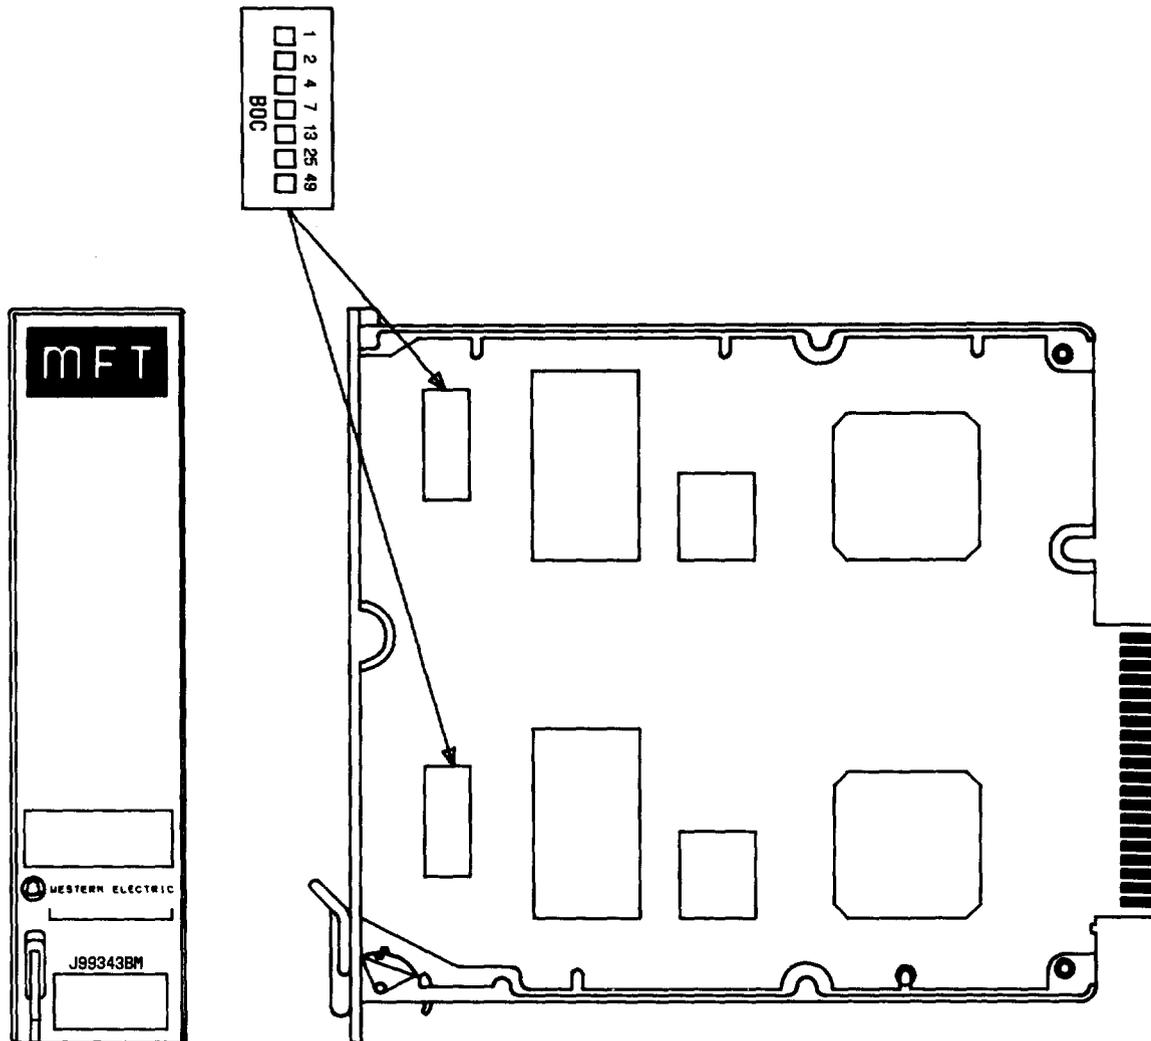
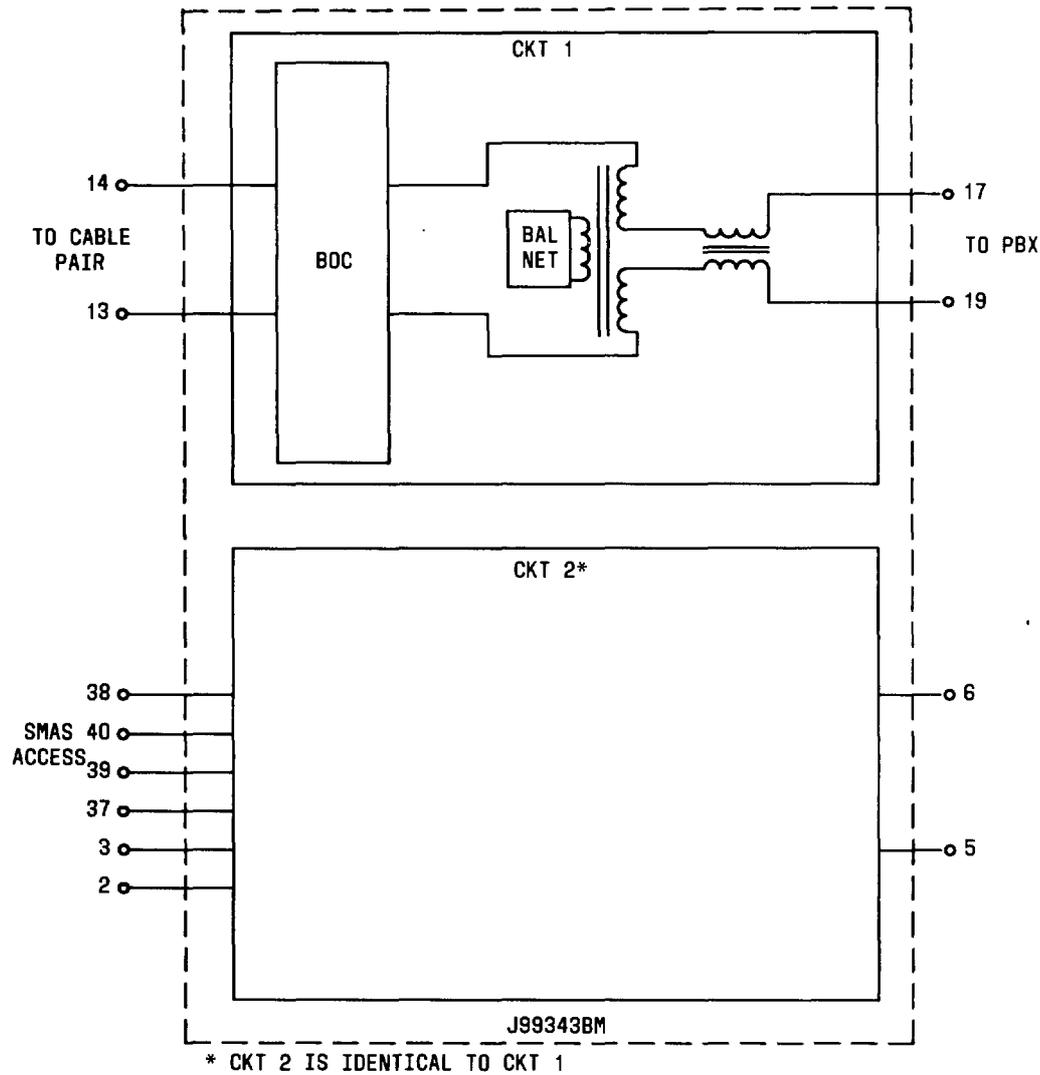

Fig. 3—Component Layout, J99343BM
Fig. 4—Block Diagram, J99343BM
**3.01** The J99343BM provides impedance matching between 19-, 22-, and 24-gauge loaded (H88 or D88) facilities and 600-ohm equipment. It also provides loss equalization in the VF band. The J99343BM is electrically identical to the J99380AB impedance compensator, but some physical improvements have been made. The screw switches on the J99380AB have been replaced by rocker-type DIP switches. Also, the test jack on the J99380AB has been eliminated because this test access point is available on the MFT test extenders. The component layout for the J99343BM is shown in Fig. 3. Figure 4 shows a block diagram of the J99343BM.
**3.03** The J99343BM contains two identical impedance compensation circuits as shown in Fig. 4. The equipment side of the circuit interfaces the 600-